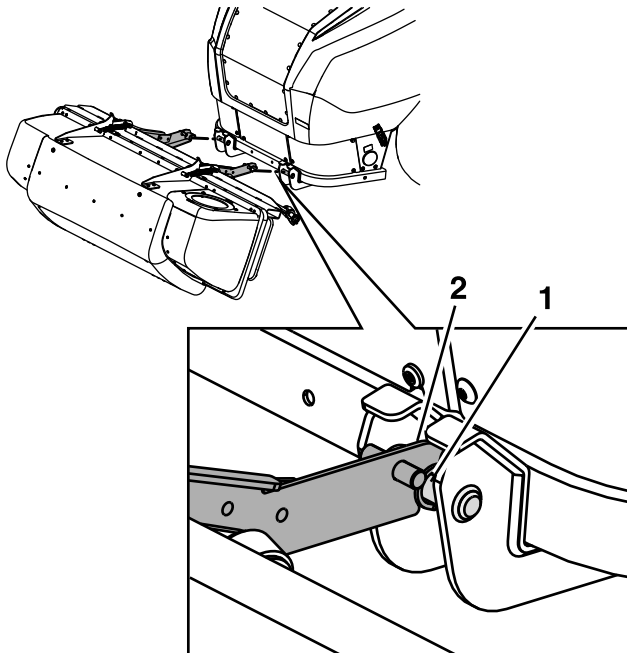

Figure 12
2. Pick up the bagger frame legs and hook the notch onto the lower bagger-mount bar (Figure 12).